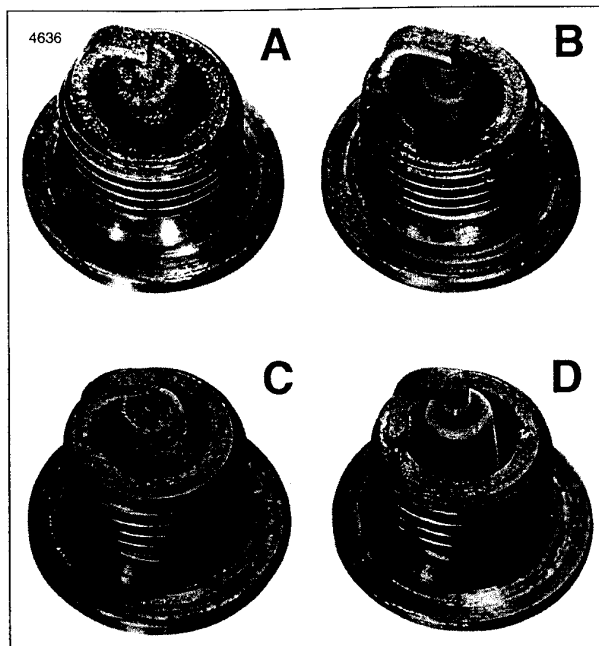

Figure 1-51. Typical Spark Plug Deposits
3. See Figure 1-51. Compare your observations of the plug deposits with the descriptions provided below.